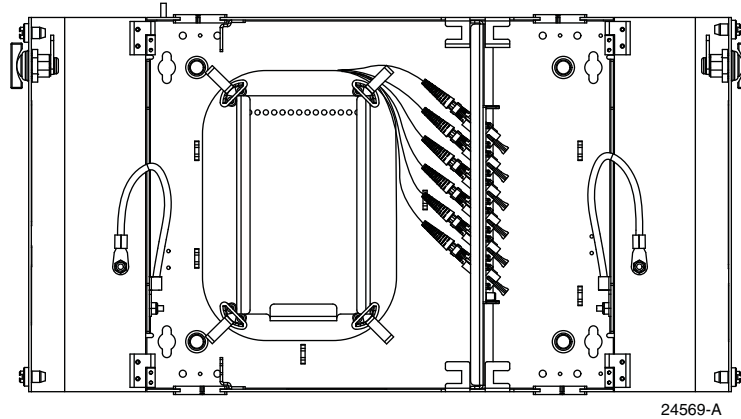
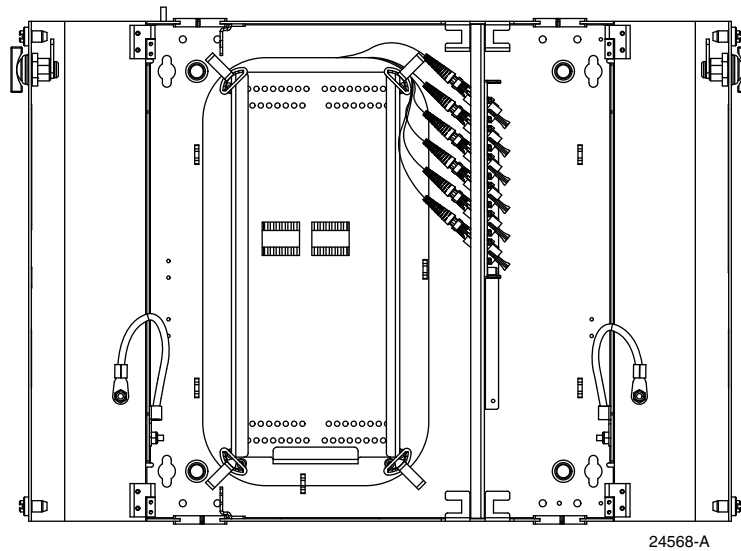

Figure 14. Pigtail Routing in 12-Fiber Termination/Splicing Panel
Figure 15. Pigtail Routing in 24-Fiber Termination/Splicing Panel
4. If installing pigtailed, route the fibers within the chassis corresponding to Figure 14 and Figure 15 for the 12-fiber and 24-fiber termination/splicing panel, respectively.